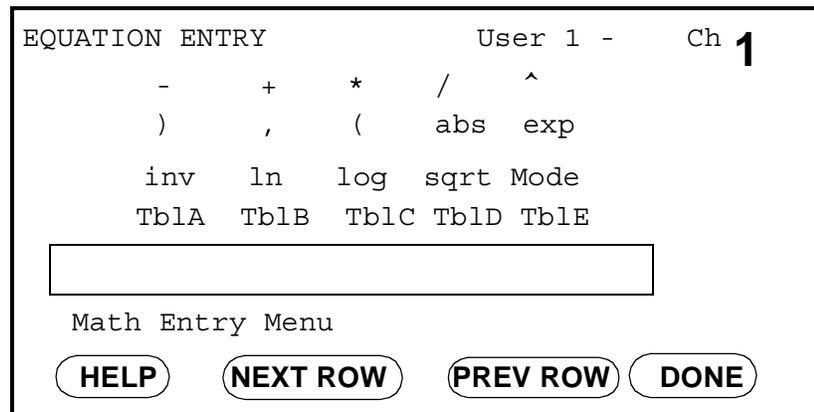

Figure 3-6: Math Entry Menu
1. Move the pointer to the Equation box. Press [YES] to enter the function. The Math Entry Menu appears, as shown in Figure 3-6.